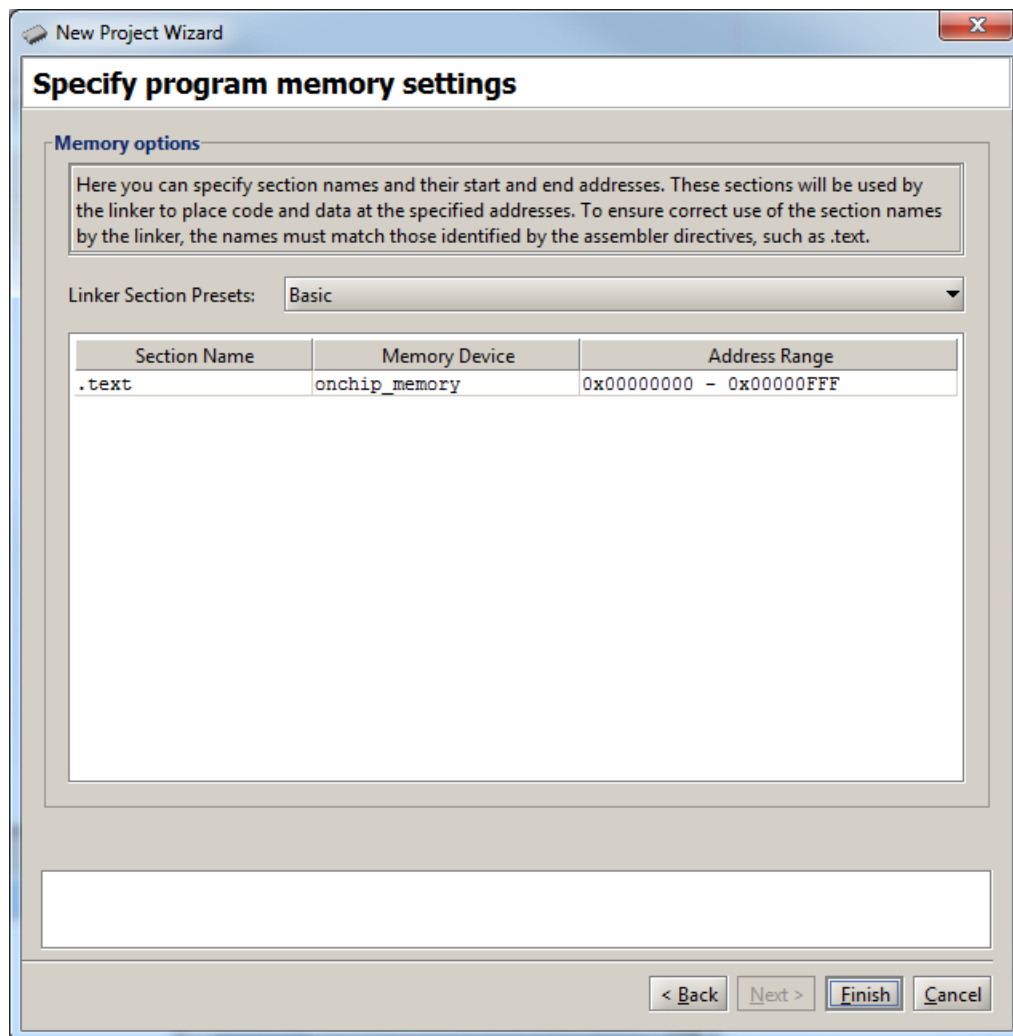

Figure 31. Specify where the program will be loaded in the memory.
8. The Monitor Program also needs to know where to load the application program. In our case, this is the memory block in the FPGA device. The name assigned to this memory is *onchip_memory*. Since there is no other memory in our design, the Monitor Program will select this memory by default, as shown in Figure 31.